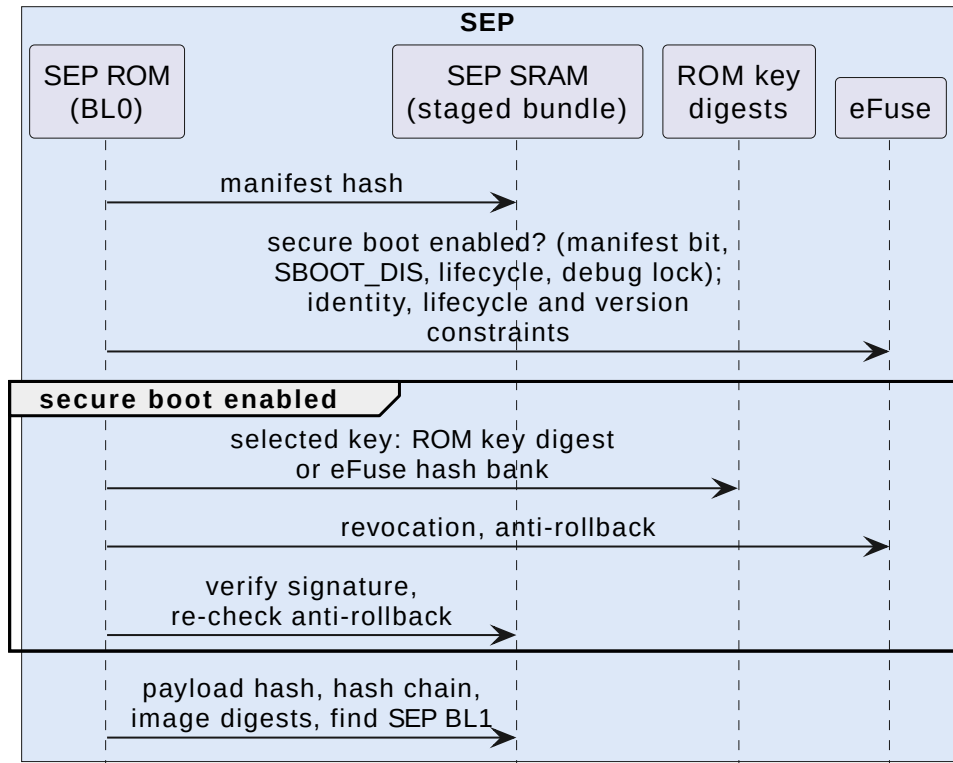

Figure 3. Bundle checks in SEP BL0
- 2. The primary authenticates.** SEP BL0 on chiplet 0 copies its bundle from the SPI flash into SEP SRAM, authenticates it (Figure 3), and enters SEP BL1. SEP BL1 restarts chiplet 0's SMC into SMC BL1 (Section 1.2).
- 4. The secondary authenticates.** SEP BL0 on chiplet 1 copies the bundle from its SMC's SRAM into SEP SRAM, checks it against chiplet 1's trust anchors (Figure 3), and enters SEP BL1. SEP BL1 restarts chiplet 1's SMC into its own SMC BL1.
On both paths the manifest lands at the base of SEP SRAM, `0x1000_0000`, and the payload immediately after it, 8-byte aligned. Validation always works on this copy in SEP SRAM, never on SMC SRAM, which stays writable from the SMC side. Figure 3 shows the order in which SEP BL0 checks it; Section 1.1.2 describes the checks.
- Authenticate.** Chiplet 1's SEP takes over as described in Section 1.2.3. It verifies the bundle against chiplet 1's ROM digests and eFuses only, as Figure 3 shows.